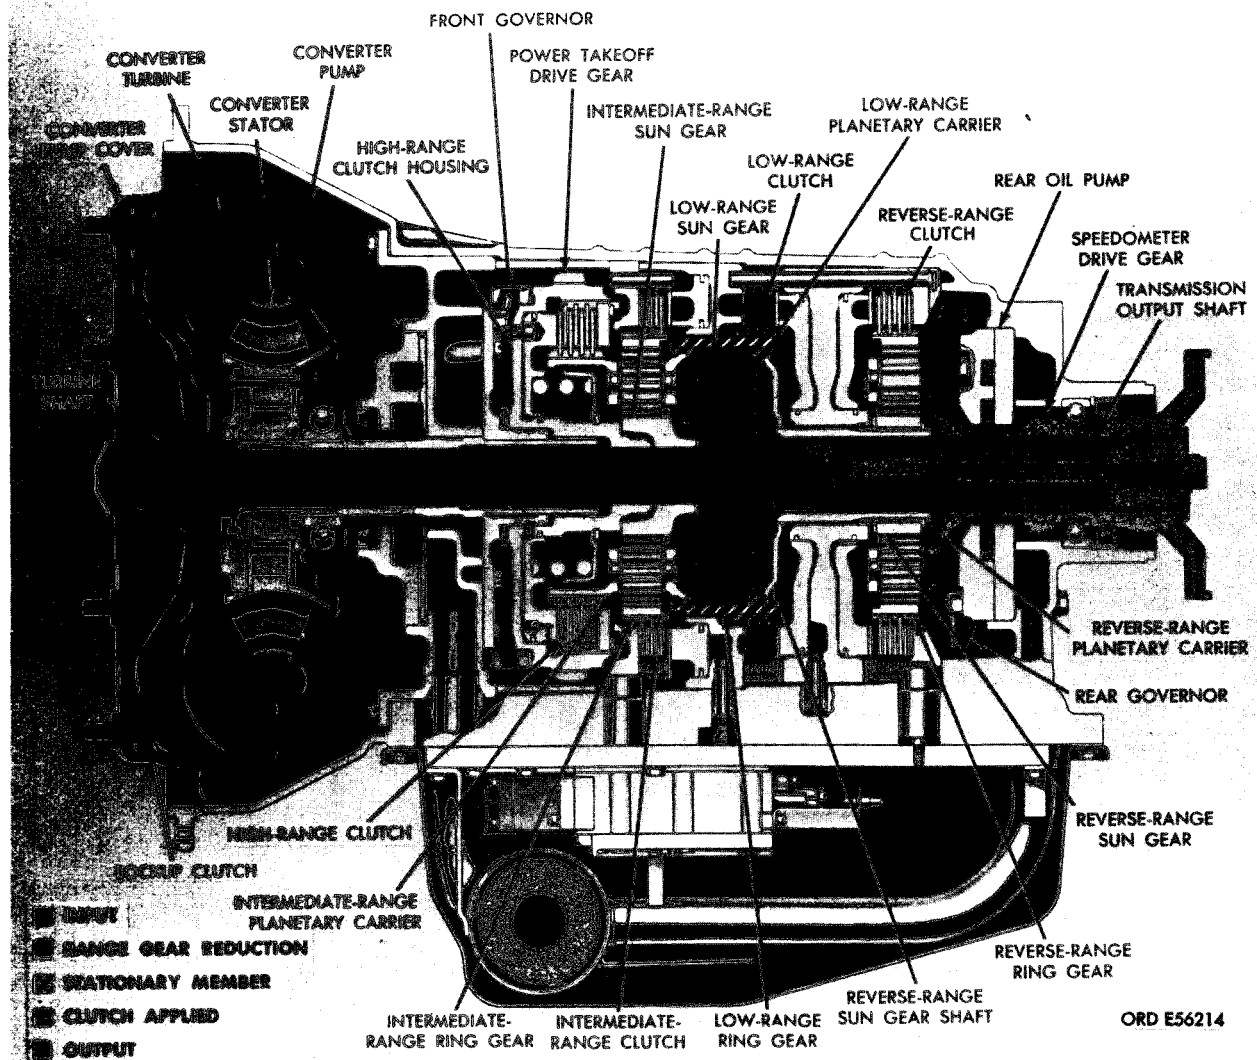

Figure 2-12. Low-range torque path, lockup operation
2-23. Torque Path—Low Range (fig. 2-12)
a. Lockup operation (direct drive through the torque converter) is shown in figure 2-12. However, converter operation is equally applicable and is always in effect until turbine shaft speed (and front governor speed) is sufficient to cause lockup. Thus, the vehicle always starts in converter operation regardless of the selector position used.